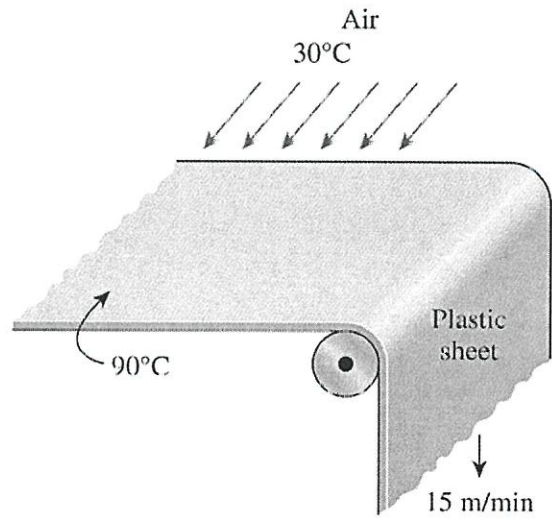

Figure 2
- (c) The forming section of a plastics plant puts out a continuous sheet of plastic that is 1.2 m wide and 2 mm thick at a rate of 15 m/min (Figure 2). The temperature of the plastic sheet is 90 °C when it is exposed to the surrounding air, and the sheet is subjected to air flow at 30 °C at a velocity of 9 m/s on both sides along its surfaces normal to the direction of motion of the sheet. The width of the air cooling section is such that a fixed point on the plastic sheet passes through that section in 2 s. Determine the rate of heat transfer from the plastic sheet to the air.